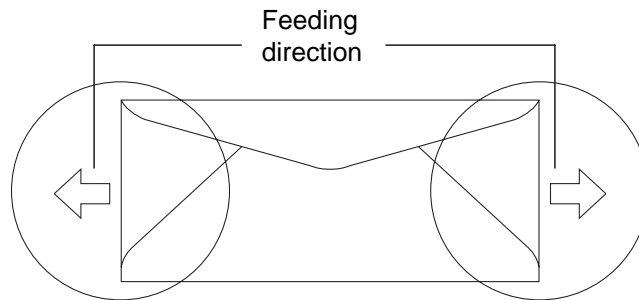

Figure 1-10
- Envelopes should consist of two layers of paper in the area circled in Figure 1-10.